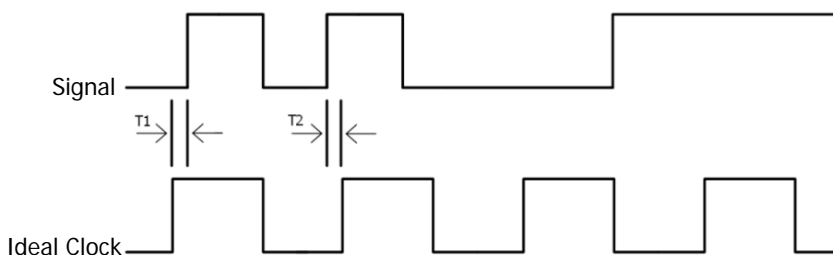

Figure 7-1 Digital Bus Jitter
- Press **Jitter Reject** to turn on the jitter rejection function. Jitter refers to the short-term deviation of the signal relative to its ideal time position at certain time point, as shown as T1 and T2 in Figure 7-1. When no reference clock is selected for the bus, the jump status of each channel would cause the variation of the bus data and undesired data would be generated due to jitter when the bus data varies. When the jitter rejection is turned on, the bus does not display the variation of the bus data caused by certain jitter time and still holds the effective data.